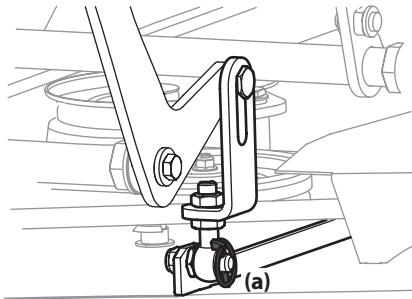

Figure 42
- Remove the four lynch pins (a) that secure the deck to the deck lift assembly. See Figure 42.